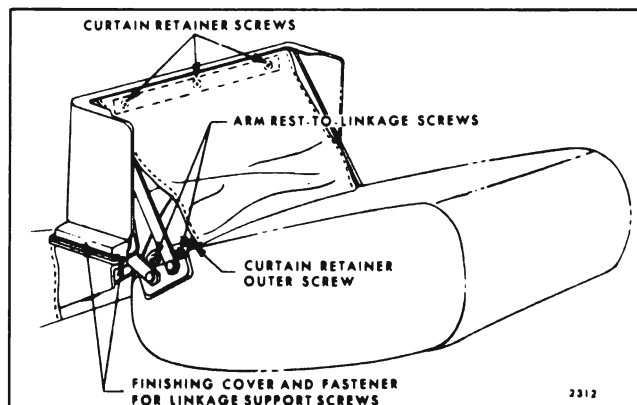

Fig. 15-23—Front Seat Center Arm Rest (Notch Down Seat Back)
- Carefully pull curtain back sufficiently to remove screws securing center arm rest to support linkage and loosen outer screws securing curtain retainer to arm rest (Fig. 15-23).
- Remove screw finishing covers (Fig. 15-23). Disengage arm rest from support linkage and turn arm rest upside down on trim panel finishing cover with curtain attached. Remove three screws securing curtain retainer to trim panel finishing cover (Fig. 15-23); then remove arm rest and curtain from seat.
- Working between arm rest and seat back, remove fastener at both sides of arm rest securing front end of screw finishing covers (Fig. 15-23).
- Remove screws securing arm rest to support (Fig. 15-23); then, remove support from arm rest, finishing cover and curtain.